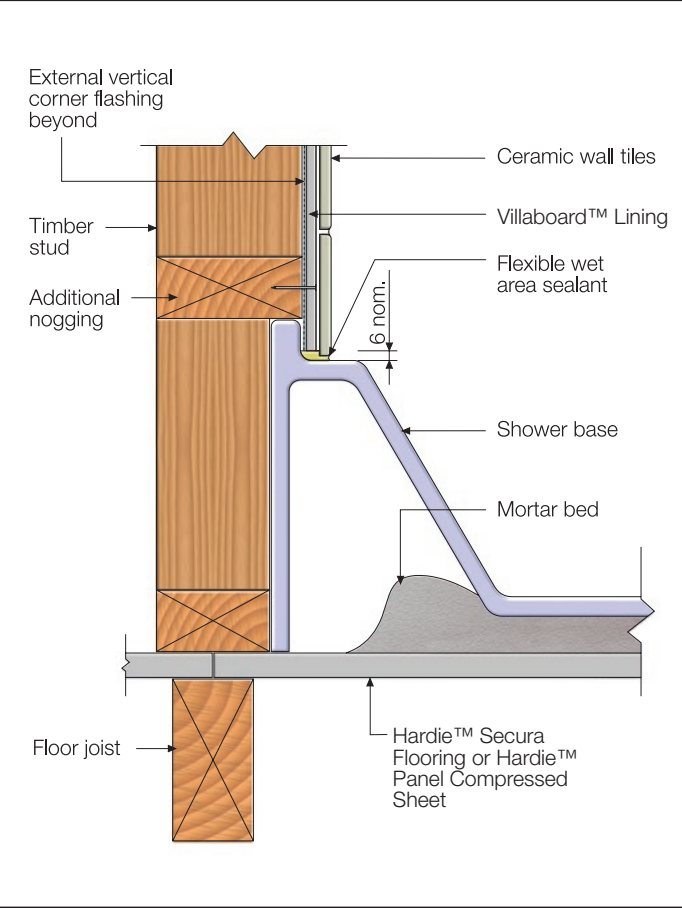

FIGURE 18A PREFORMED TRAY DETAIL FOR VILLABOARD™ LINING TO BE TILED - TIMBER FRAME
1. Where wall/floor junctions are flashed with an external angle (or when an external membrane or base is used), Villaboard™ Lining to be finished with tiles must not be fixed to bottom plates. In these cases, provide an extra row of noggings above top of the flashing/membrane for fixing Villaboard™ Lining. See Figure 18A & 18B.
With Villaboard™ Lining that will be tiled, sealing is required around preformed trays and bases, see Figure 18A & 18B respectively. These trays and bases are usually manufactured from plastic, fibreglass or stainless steel, in a variety of sizes and configurations. Preformed trays and bases must be installed to manufacturer's instructions.